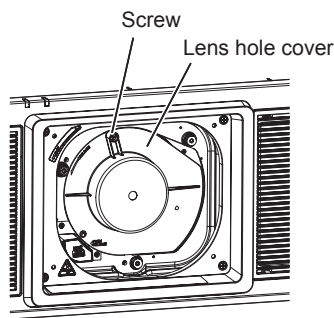

Fig. 1
- 1) **Loosen the screw fixing the lens hole cover. (Fig. 1)**